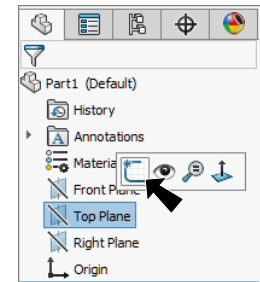
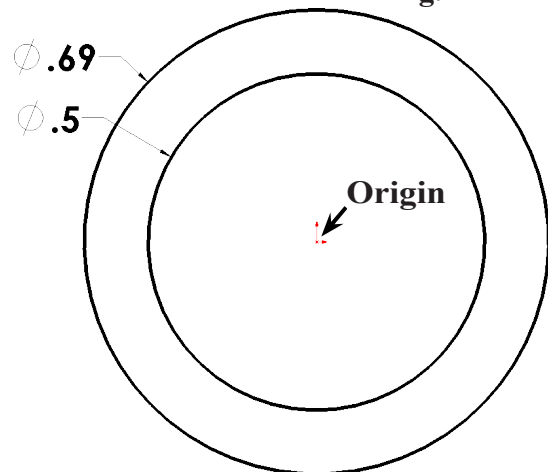

Fig. 1
Fig. 2
Step 2. Click **Top Plane**  in the Feature Manager and click **Sketch**  on the context toolbar, **Fig. 1**.
Step 3. Click **Circle**  (S) on the Sketch toolbar.
Step 4. Sketch **two circles** starting at the Origin , **Fig. 2**.
Step 5. Click **Smart Dimension**  (S) on the Sketch toolbar.
Step 6. Dimension diameters, **Fig. 2**.